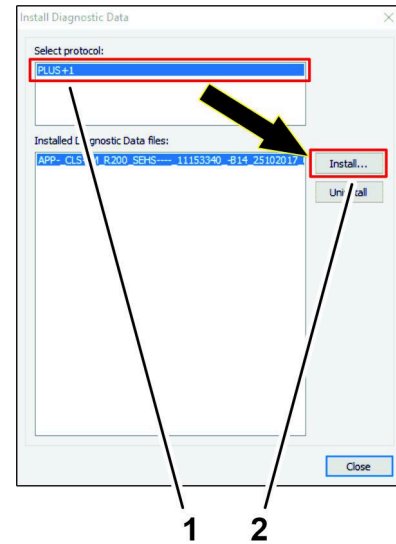

Figure 48
2. In the Select Protocol dialog box, click the PLUS+1 icon, and press the INSTALL icon (Figure 48).